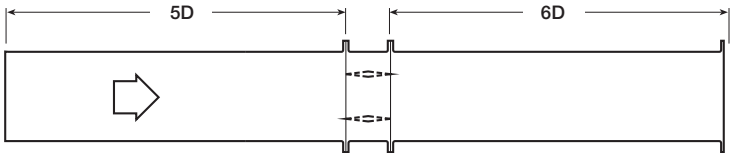

Fig. 5.3
**Figure 5.3** illustrates a fully ducted damper. This configuration has the lowest pressure drop of the three test configurations because the entrance and exit losses are minimized by straight duct runs upstream and downstream of the damper.